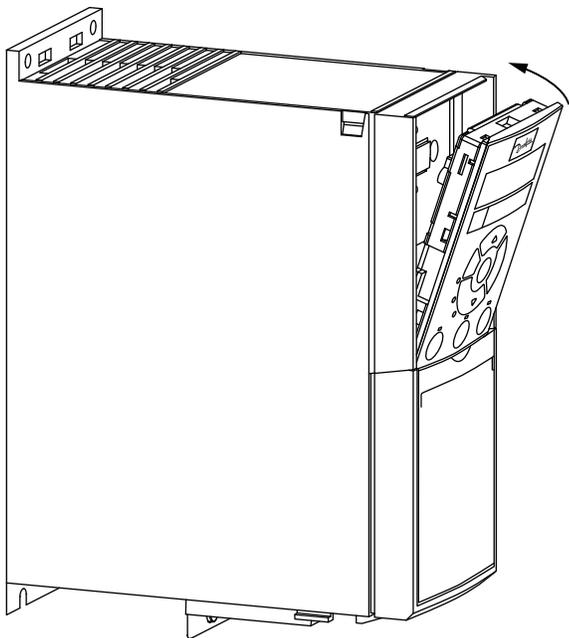

Fig. 71 — Secure Keypad in Place
2. Push the top of the VFD keypad into the variable frequency drive as shown in Fig. 71.